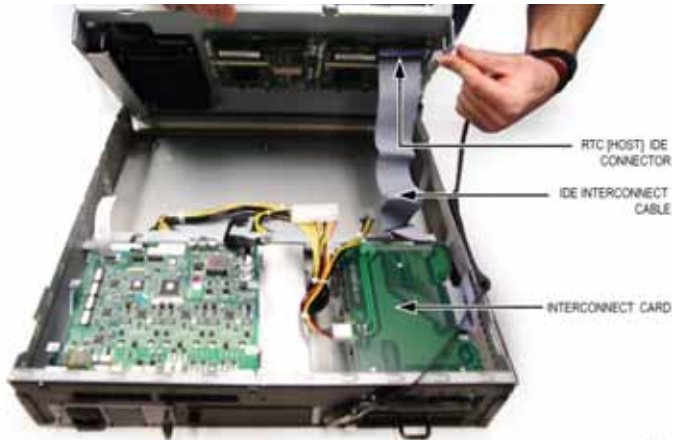

Figure 35: Disconnecting the IDE Interconnect Cable - MXe II
- For the MXe II, disconnect the IDE interconnect cable from the RTC (host) IDE connector (see Figure 35).